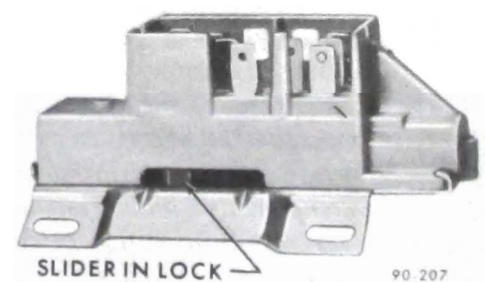

Figure 90-130 - Ignition Switch Slider in 'Lock' Position
14. When installing the ignition switch, be sure the lock cylinder is in "Lock" position. Make certain that the switch is in "Lock". Fit actuator rod into switch and assemble to column with two screws. See Figure 90-130.